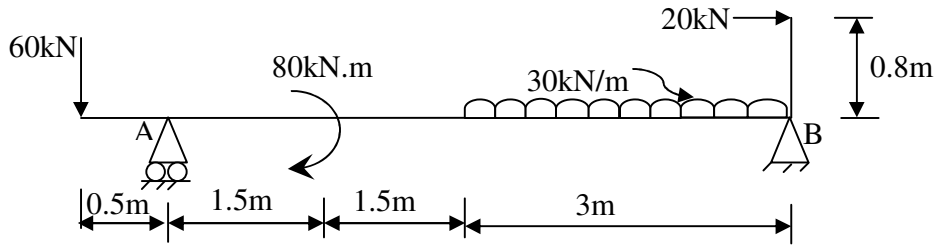

Fig.1 (Q:3(a))
- Q.3** (a) Determine support reactions for the beam loaded as shown in fig.1. **07**